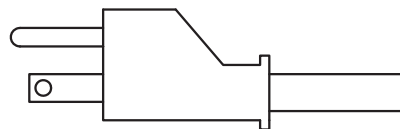

Fig. 11-1
5. Clear the screen if necessary and draw the plug shown in Fig. 11-1, first with ortho off and then with ortho on. Don't worry about exact sizes and locations.